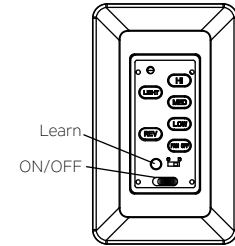

Fig. 21
Step 1. After installation is complete, press the LEARN button for 3 seconds within 30 seconds of AC power is turned on. Fan will turn on at medium speed and light (if installed) will turn on. This confirms that the SMART SYNC setting is active and ok. (Fig. 21)
Restore power to ceiling fan and test for proper operation (Fig. 21)